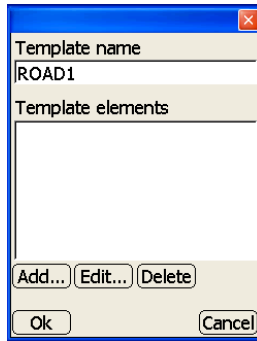

Figure 2-20. Template Elements Dialog Box
11. On the *Template elements* dialog box, enter the name of the template, then press **Add** to create a template element, or press **Edit** to change a template element (Figure 2-20).